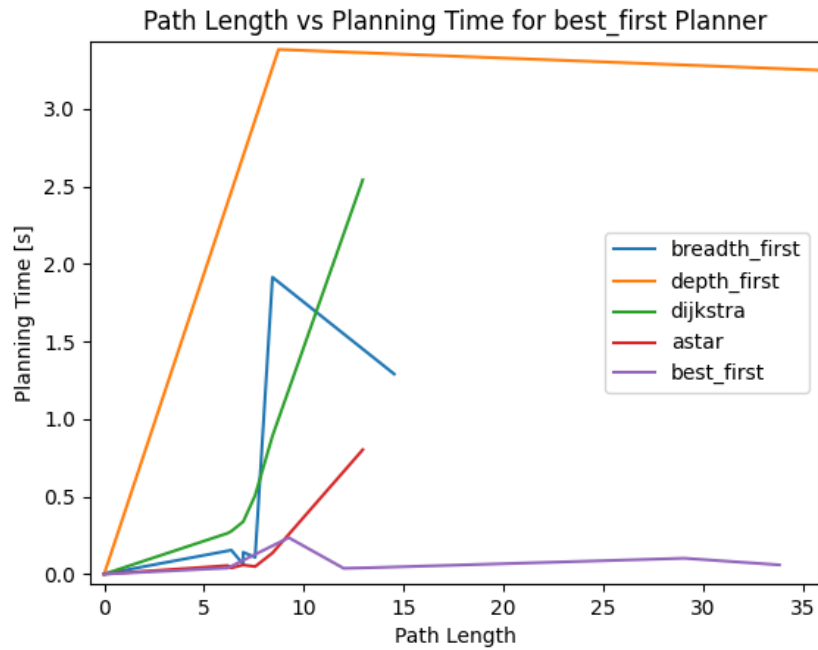
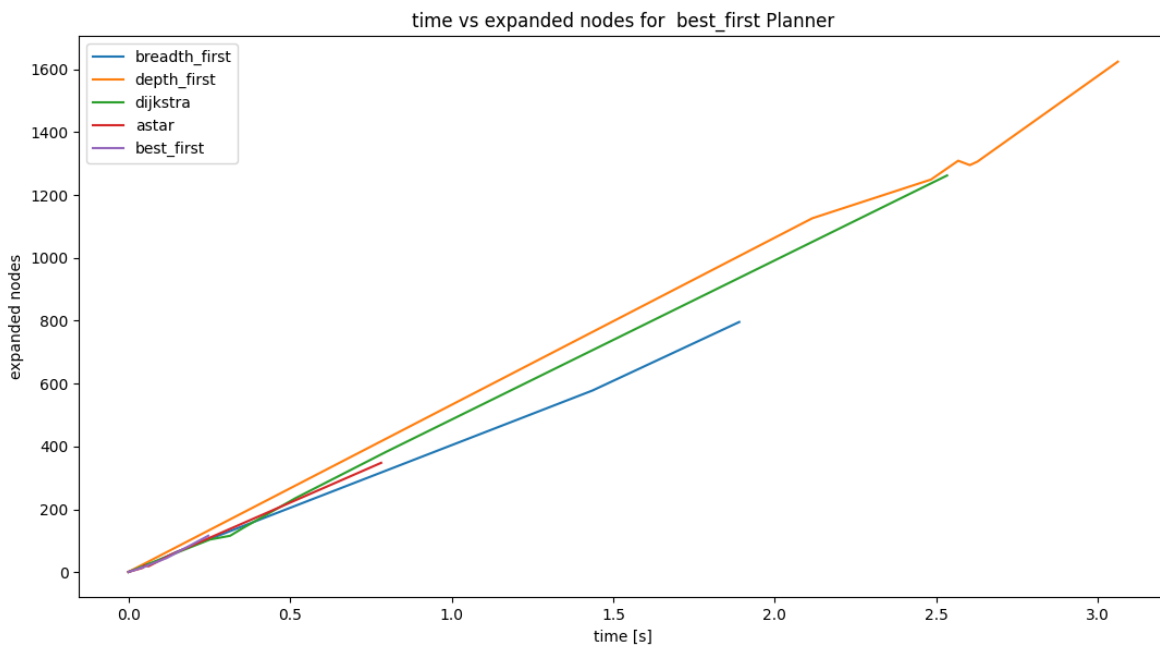

Figure 3: Plan length vs. computation time
Figure 4: Planning time vs. expanded nodes
- Plots of plan length vs. computation time (see Figure 3) and planning time vs. expanded nodes (see Figure 4) confirmed that A* provides the best compromise: it consistently requires fewer expansions than Dijkstra while yielding nearly identical path length.